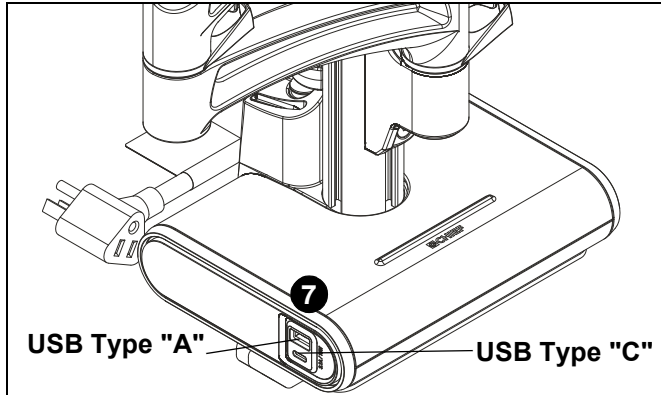

Figure 4
- One USB type "A", one USB type "C": 5Vdc, 3.1A/15W (shared) (See Figure 4)